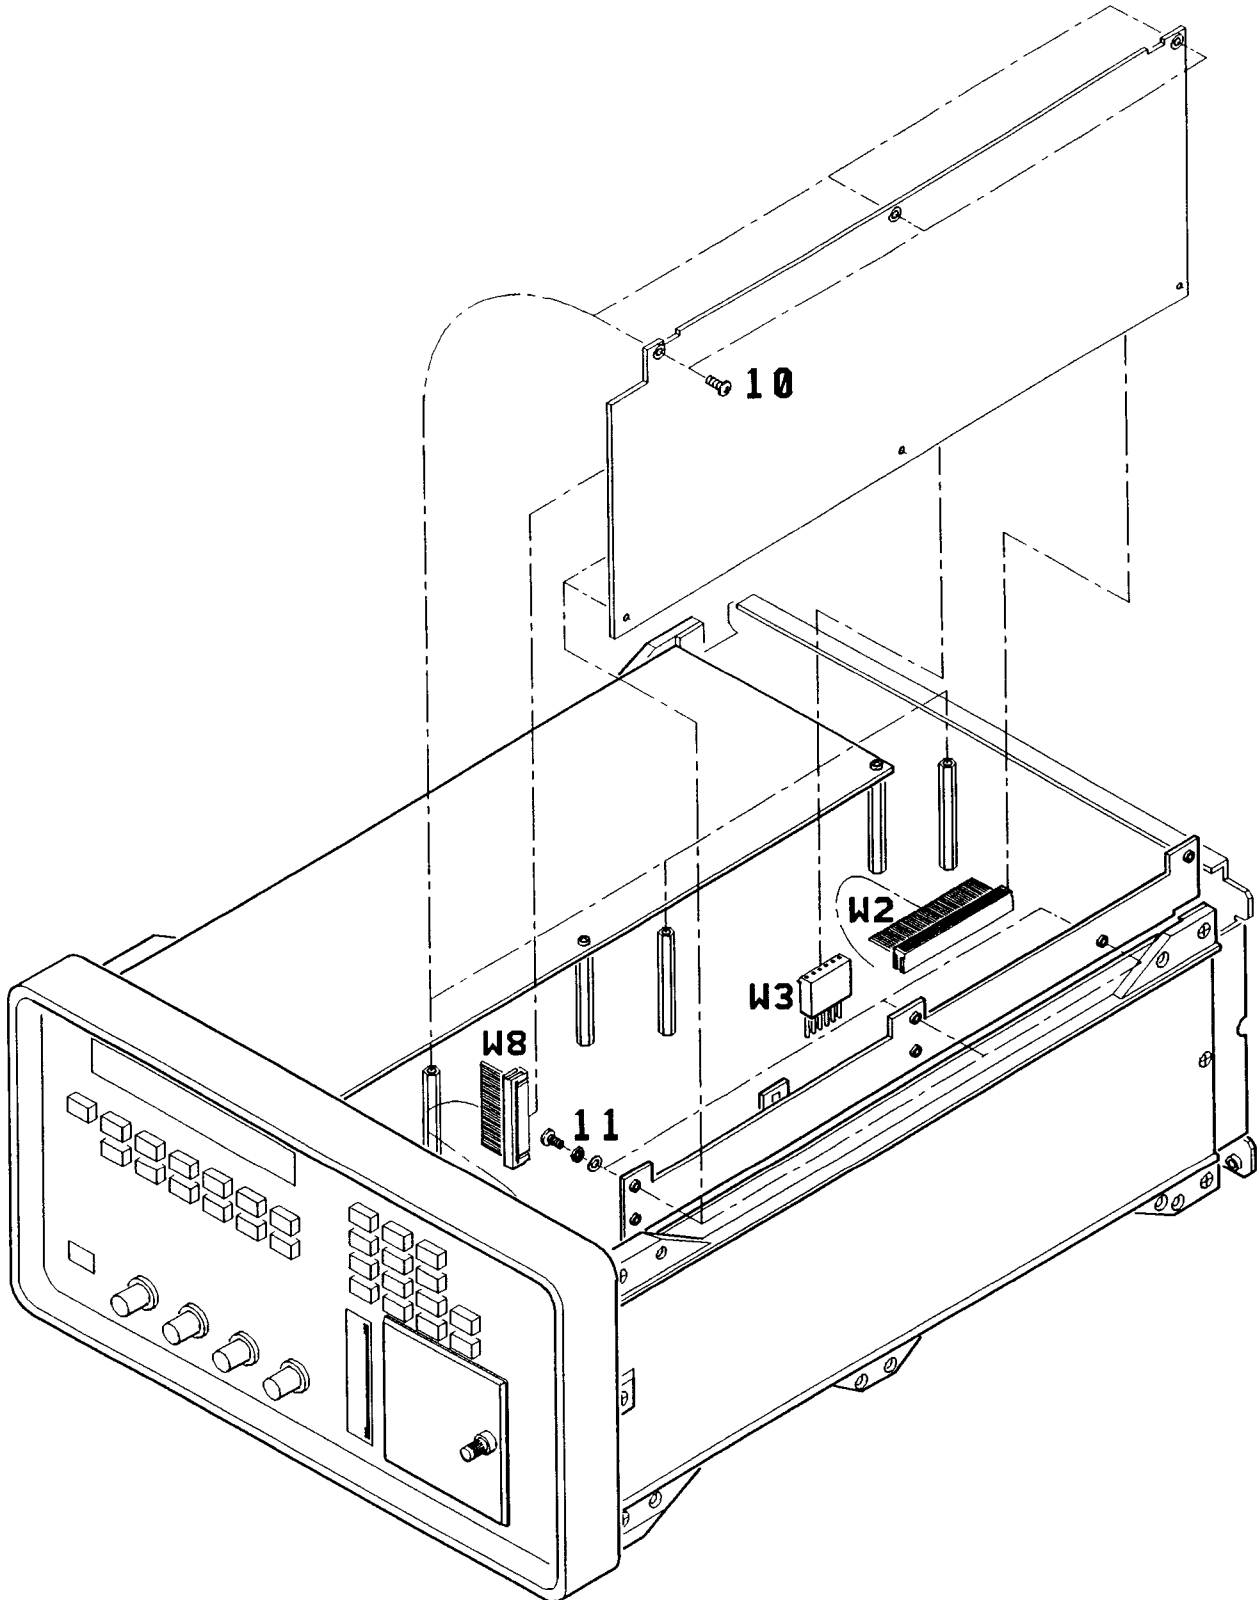

Figure 3-9. A11 CPU Assembly Removal
2. Remove the 3 screws that secure the top of the A11 CPU Assembly to the frame (#10, figure 3-9).
8. Remove the 3 screws that attach the A11 CPU Assembly to the spacer (#11, figure 3-9).